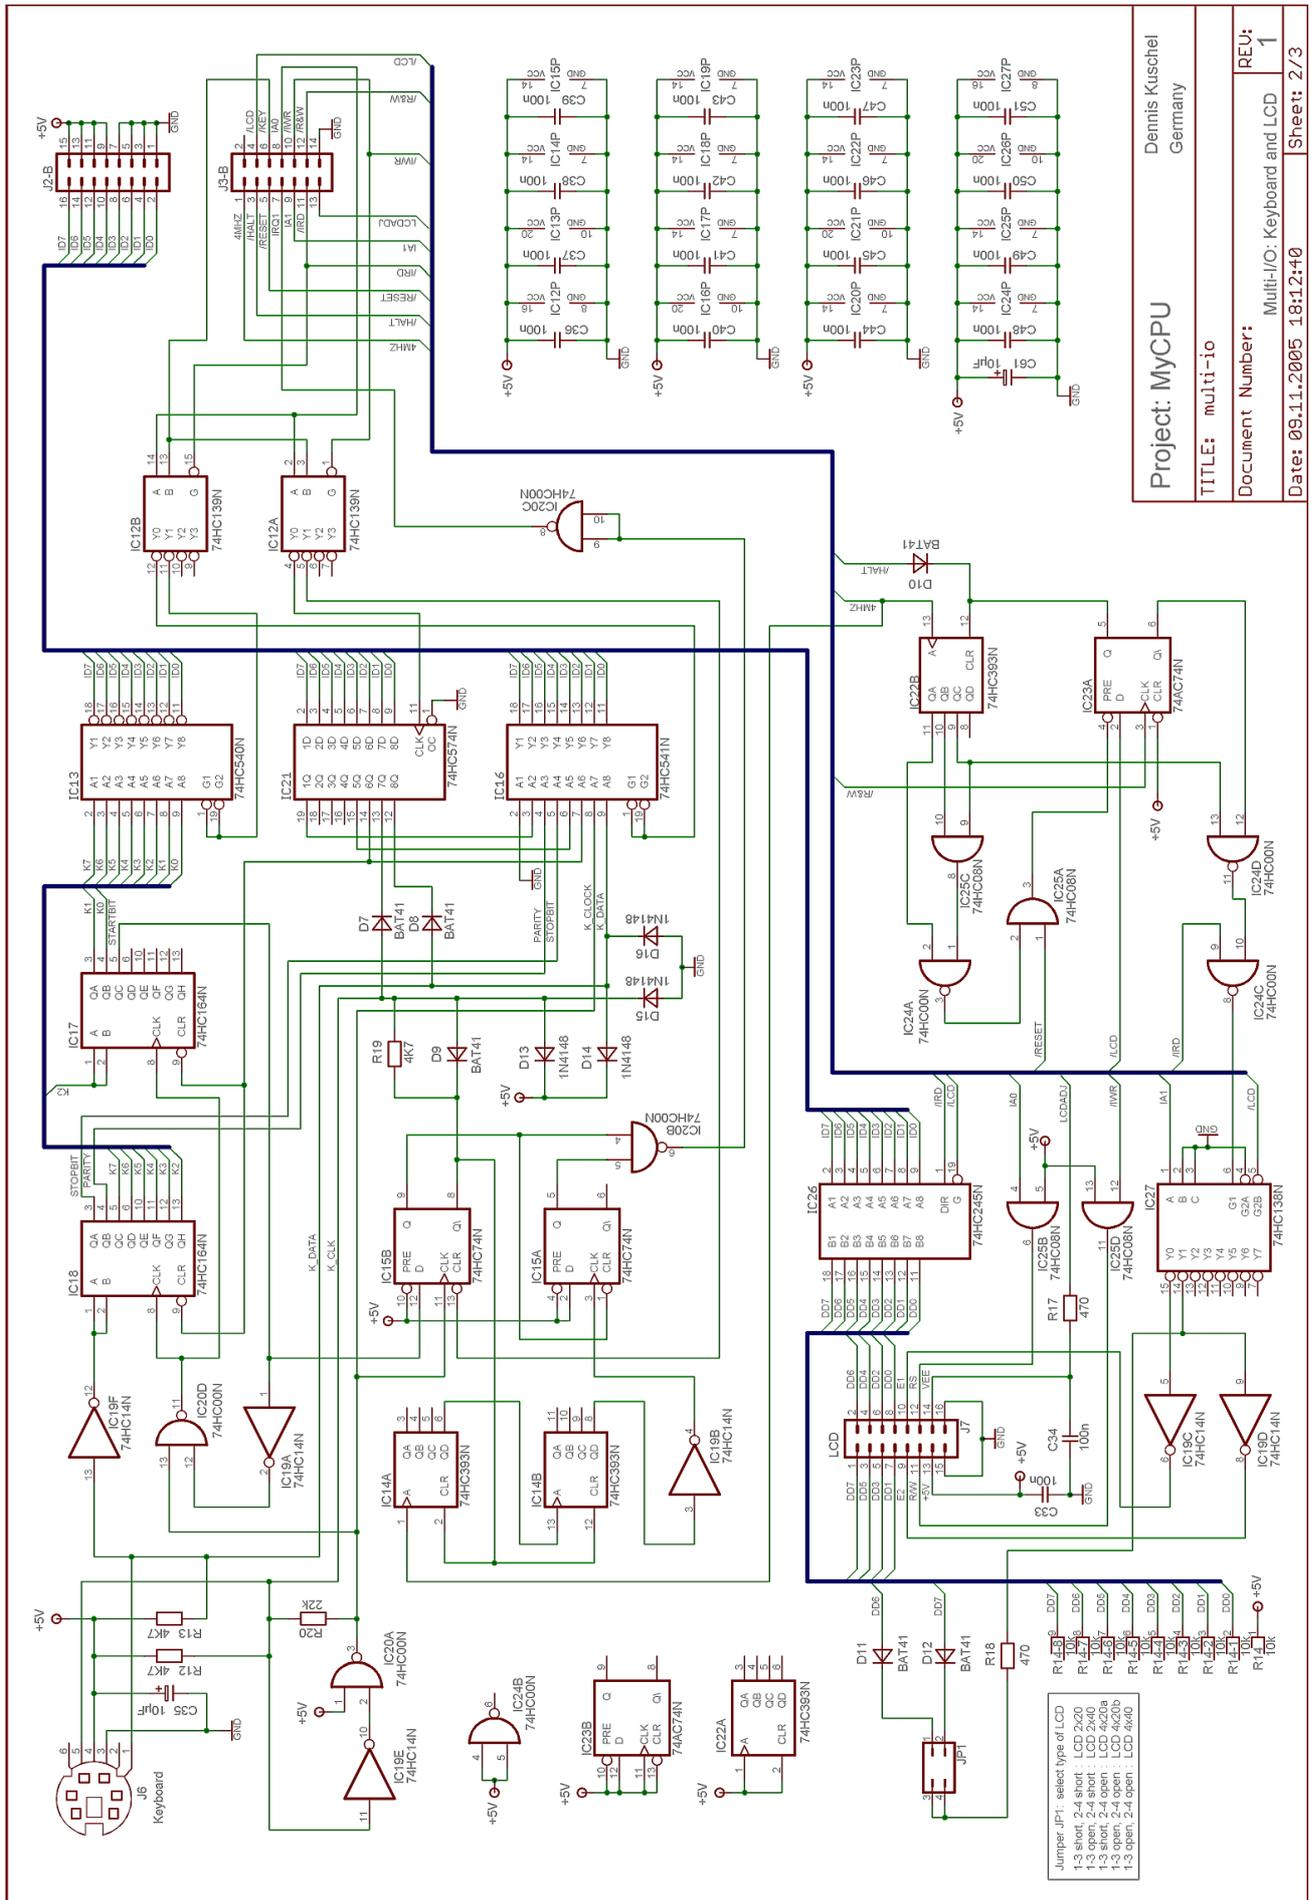

Fig. 22: Schematic of the Keyboard- and LCD- Interface Board
- Fig. 22 on Page 28: Schematic of the Keyboard- and LCD- Interface Board